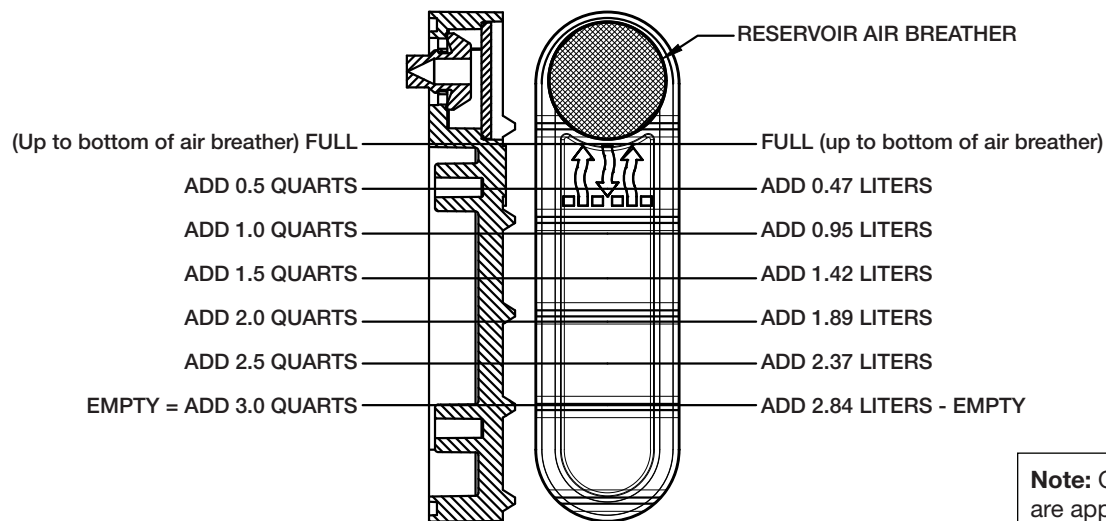

Figure 14, Reservoir Oil Fill Guide
5. With the pump in the normal (horizontal) operating position, check the oil level in the oil level indicator. Use the diagram in Figure 14 to determine the approximate amount of additional oil that must be added.